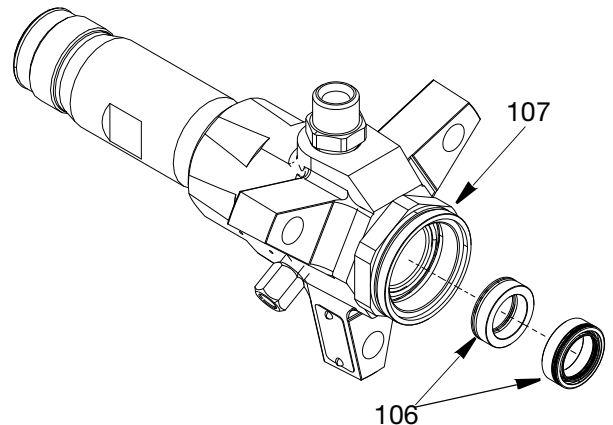

FIG. 27
2. Lubricate the upper shaft seals (106) and inside diameter of the seal cartridge (107). Install the first upper shaft seal with the spring side facing the seal cartridge. Using a suitable size socket or dowel press the upper shaft seal down into the seal cartridge until it seats into the bottom of the seal cartridge.
3. Place the second upper shaft seal (106) into the seal cartridge (107) with the spring side facing outwards. Press the shaft seal into the seal cartridge until it seats against the first upper shaft seal. See FIG. 27.